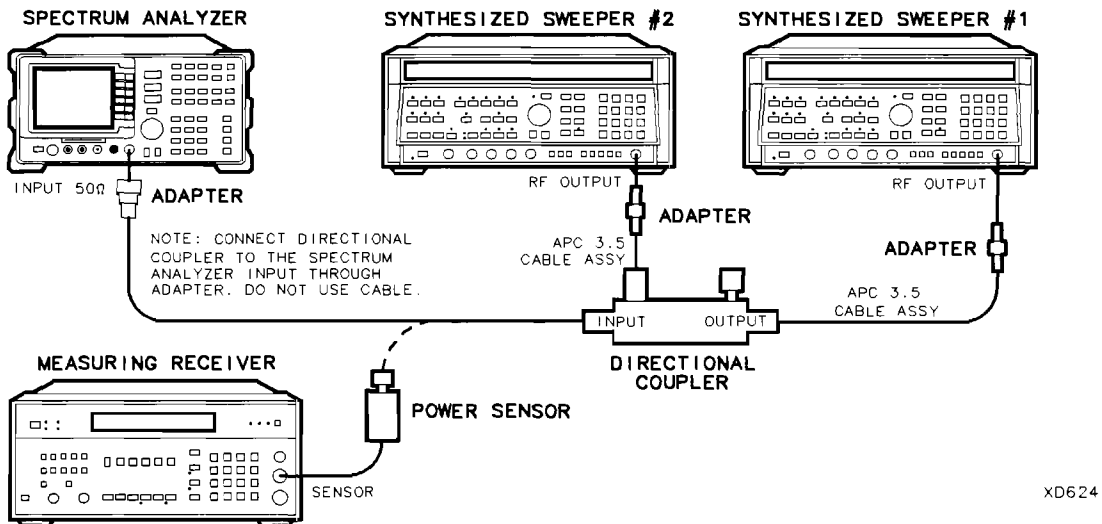

Figure 2-64. Gain Compression Test Setup
2. Connect the equipment as shown in Figure 2-64, with the output of the directional coupler connected to the power sensor.
28. Connect the equipment as shown in Figure 2-64.